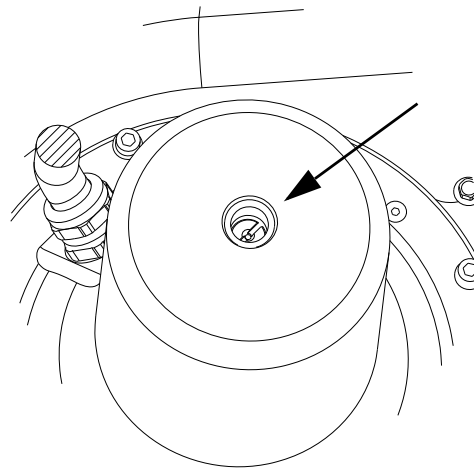

Fig. 30 Top of slotted motor shaft
- The top of the motor shaft is now visible. See fig. 30. Check that rotor and impeller can be turned freely by turning the shaft with a large slotted screwdriver.